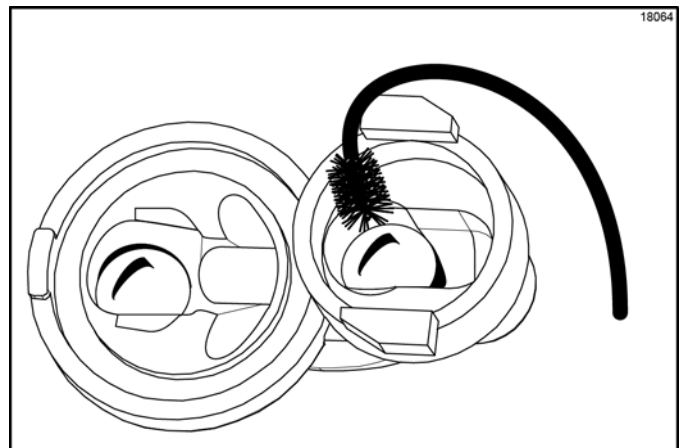

Figure 6-103
- Insert the black shielded brush into the top side of the outlet valve. Scrub this area, specifically around the steel ball. (See Figure 6-103.)